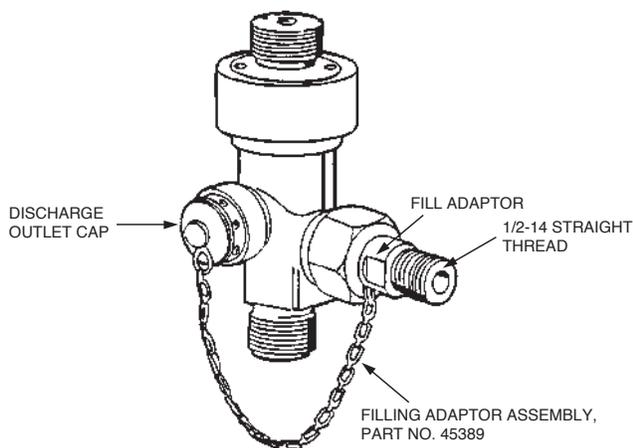

FIGURE 8-5
4. Attach the fill adaptor to the side filling inlet of the valve. See Figure 8-5. The side filling inlet is the lower of the two large threaded ports. Make certain the washer is in place in the fill adaptor. Screw the adaptor on the valve filling inlet, wrench tighten.
5. Screw the knurled discharge outlet cap on the discharge outlet, the highest large threaded port on the side of the valve. See Figure 8-5. This should be hand tight only as the pin inside the cap acts to open the anti-recoil. By holding the anti-recoil open, the residual pressure under the main valve seat is relieved, allowing the valve to properly close.